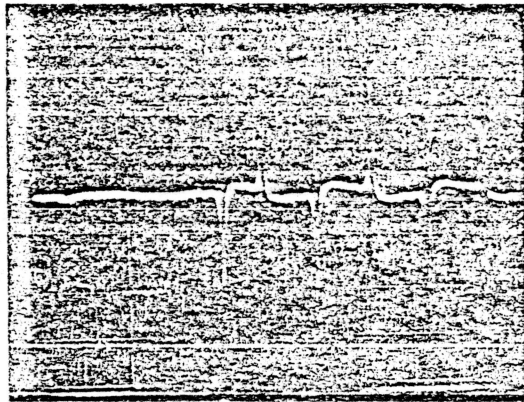

FIGURE 10. INDEX TIMING
- f. Observe the timing between the start of the sweep and the first data pulse. This should be  $200 \pm 100 \mu$ sec. If the timing is not within tolerance, continue on with the adjustment. Reference figure 10.